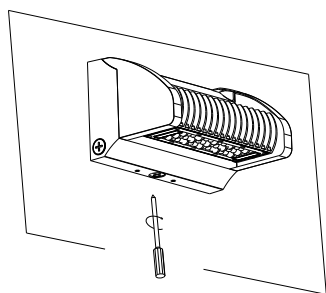

Figure 1-5
- 5.Fix the luminaire on the bracket and tighten screws on the bottom(Figure 1-5)